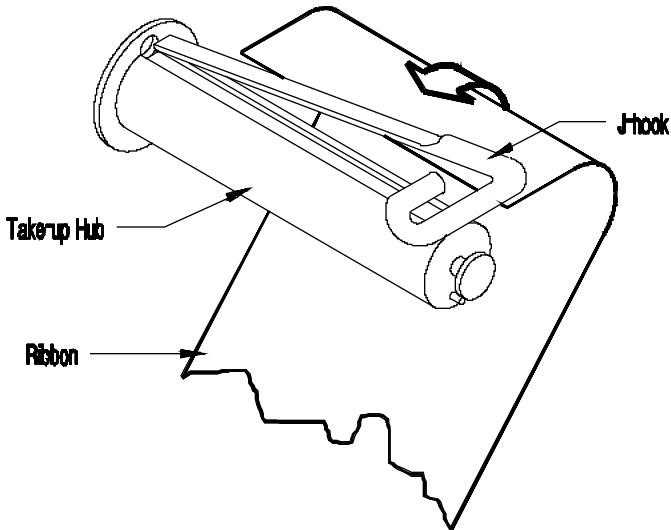

Figure 3-7 J-Hook
- ⑦ Slide the J-Hook back into place as shown in Figure 3-7. While holding the Ribbon Take-up Hub, rotate the J-Hook until it latches. Turn the Ribbon Take-up Hub several times to secure the ribbon.
- ⑧ Lower the Head Lift Lever until the printhead is locked in the down position.